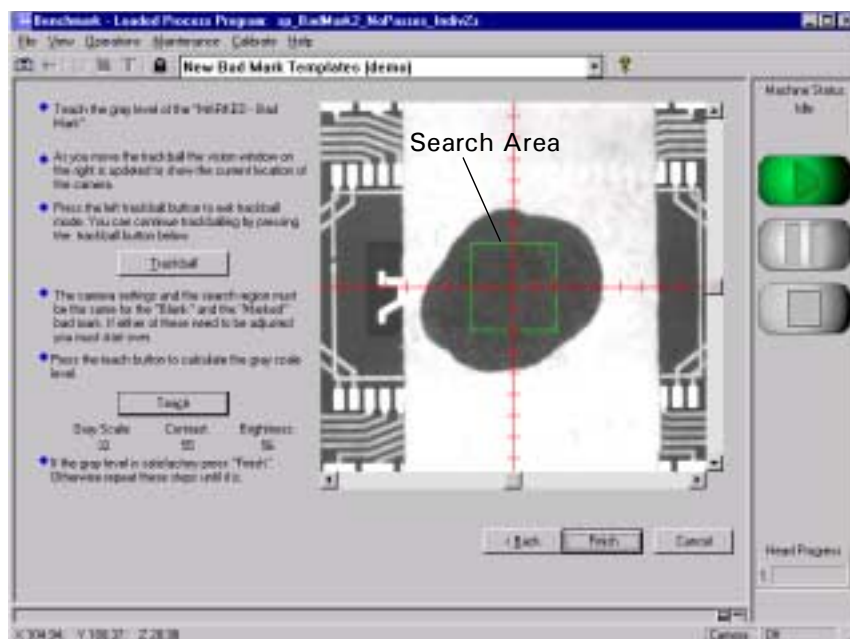

Figure 10-8
A Bad Mark screen to teach the gray scale of a Marked Bad Mark appears. See Figure 10-8.
1. Select the **Trackball** button. While viewing the vision screen, move the crosshair over to the same reference point (taught during the Blank Bad Mark) that contains a Bad Mark. See Figure 10-8.